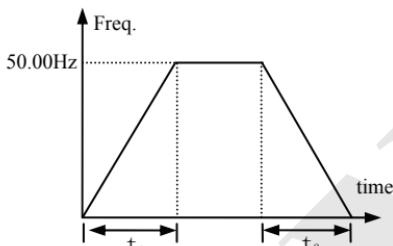

Fig. 7-1 Line acc/dece
**0: Line acc/dece mode.** Output frequency raises or decline as the constant slope, as fig.7-1.